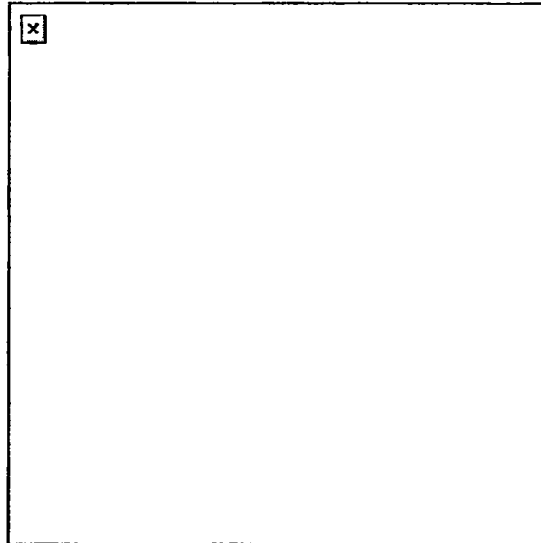

Figure 6. Prone position.
- a. Prone (Figure 6). To assume the prone position—
- (1) Lie flat on the ground, facing the target.
- (2) Extend your arms to the front, with your firing arm locked.
- (3) Wrap your nonfiring hand around either the wrist or the fingers of your firing hand.
- (4) Face forward. Keep your head down between your arms and behind the weapon.